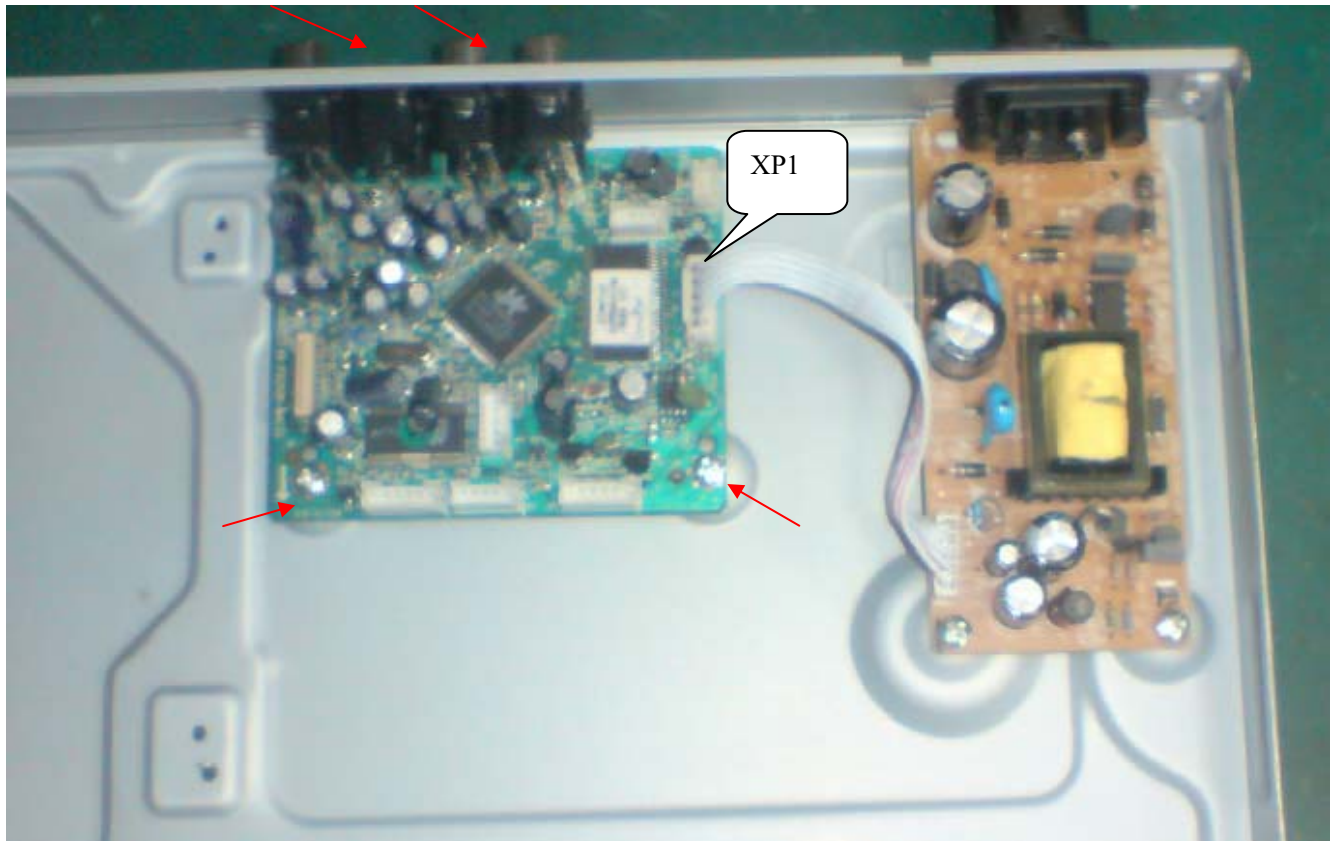

Figure 7
Step6: Dismantling Main Board, first disconnect the connector (XP1), and then remove 4screws. (Figure 7)